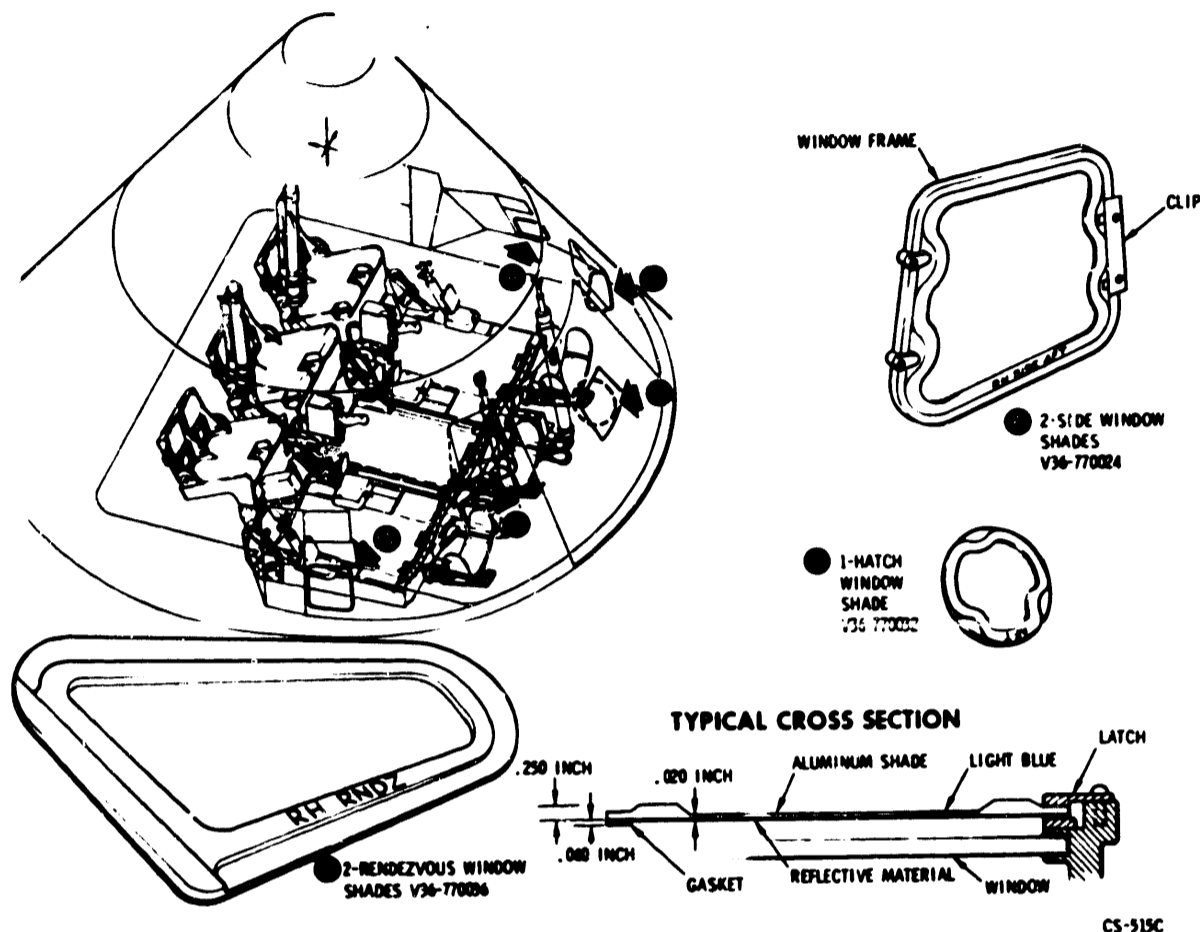

Figure 2.12-18. Window Shades
2.12.4.1.1 Window Shades (Figure 2.12-18).
The CSM has five windows: two triangular-shaped rendezvous windows, two square-shaped side windows, and a hatch window. Periodically, the light coming through these windows has to be restricted. This is accomplished by window shades (figure 2.12-18).